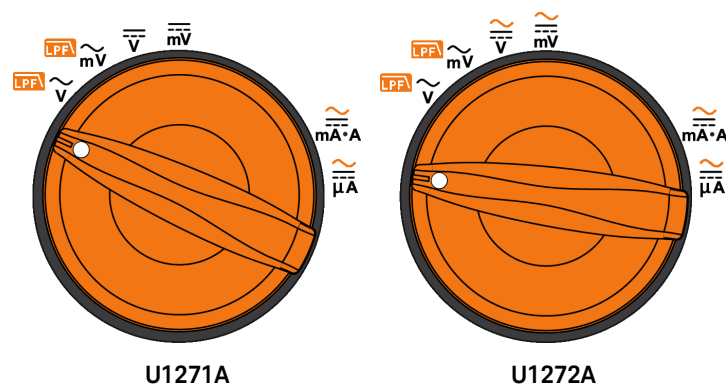

Figure 2-36 Functions allowing frequency measurement
Your multimeter allows simultaneous monitoring of real-time voltage or current with frequency, duty cycle, or pulse width measurements. Figure 2-36 highlights the primary functions allowing frequency measurements in your multimeter.
- 1 To measure frequency, rotate the switch to one of the primary functions allowing frequency measurements highlighted in Figure 2-36.
- 1 To measure pulse width, position the rotary switch to one of the functions allowing frequency measurements shown in Figure 2-36.
- 1 To measure duty cycle, position the rotary switch on one of the functions allowing frequency measurements shown in Figure 2-36.